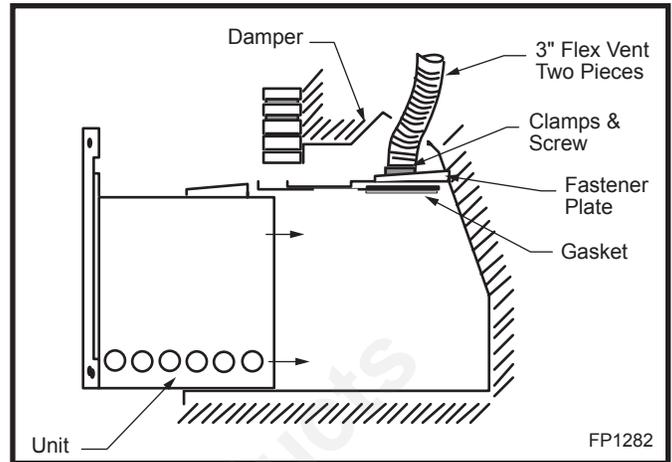

Fig. 14 Apply high temperature sealant to end of collar.
2. Apply a bead of hi-temp sealant on the end of the collar before attaching the liner to the flue collar. Fasten it with two clamps then adjust fastener plate all the way to the back before sliding flue gas plate back onto the unit. (Figs. 14 and 15)